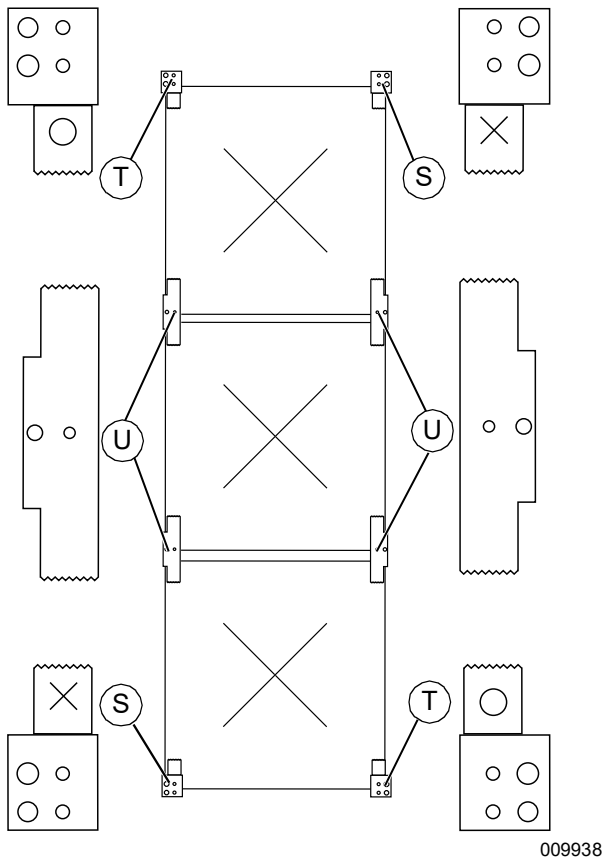

Figure 4-29. Installing Retention Clips (2 of 3)
See **Figure 4-29**. Note that there are three types of retainers clips: double retention clips (U), single retention clips marked O (T) and single retention clips marked X (S).
- Install single retention clips (T) (S) at the top and bottom of the stack.
- Install double retention clips (U) between rows of modules.